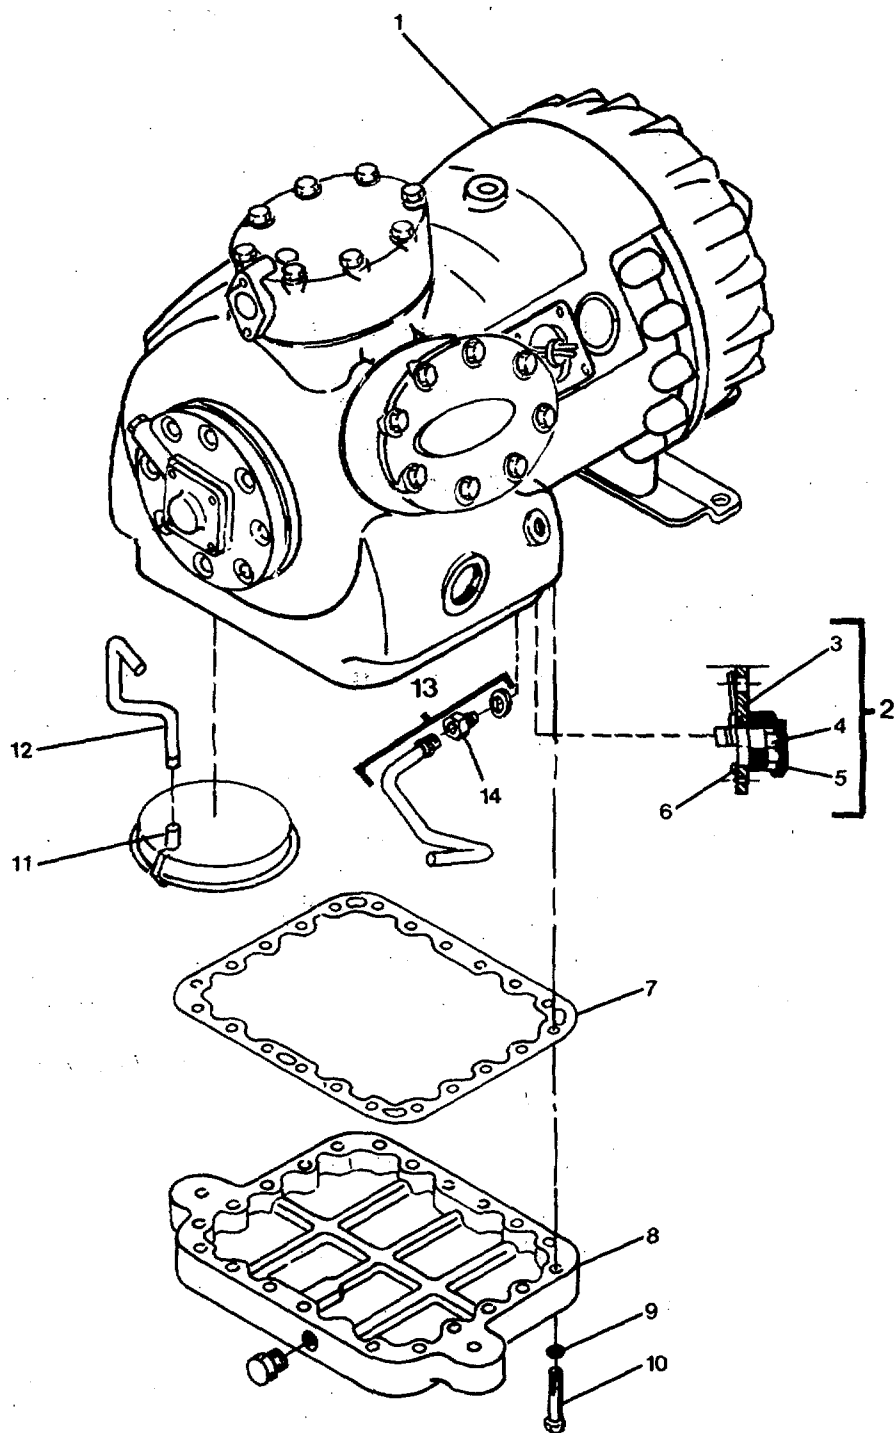

Figure 4-20. Replacing Crankcase Component .
- (1) Disconnect suction valve (19) from motor end cover (15) (Removal, step b., above).
- (2) Remove 18 capscrews (21) and washers (22) and remove motor end cover (15).
- (3) Remove gasket (14) and discard.
- (4) Remove suction strainer (13) from motor end cover (15) and clean with mineral spirits. Allow strainer to dry and coat with clean compressor oil. Install strainer back in motor end cover.
- (5) Make sure gasket sealing surfaces are clean.
- (6) Coat gasket (14) with clean compressor oil.
- (7) Align gasket (14) and install motor end cover (15) with 18 capscrews (21) and washers (22). Torque capscrews alternately to following values:
- g. Replace compressor plate gasket (7, FIGURE 4-20), assembly relief valve (13) and/or safety relief valve (14), and check valve piston (4) and spring (5):
- (1) Remove compressor (See removal steps, above).
- (2) Remove 22 capscrews (10) and washer (9).
- (3) Remove plate (8) and gasket (7) from compressor (1).
- (4) Disconnect oil strainer (11) from oil suction tube (12) from inside crankcase. Disconnect oil suction tube (12) from oil pump.
- (5) Remove assembly relief valve (package) (13), along with safety relief valve (14) from inside crankcase.
- (6) Remove two screws (6) from mounting package (3) and remove check valve assembly (2).
- (7) Remove check valve piston (4) and check valve spring (5).
- (8) Prelube all parts with clean compressor oil.
- (9) Install new check valve spring (5) and check valve piston (4) in check valve assembly (2).
- (10) Install mounting package (3) with two screws (6).